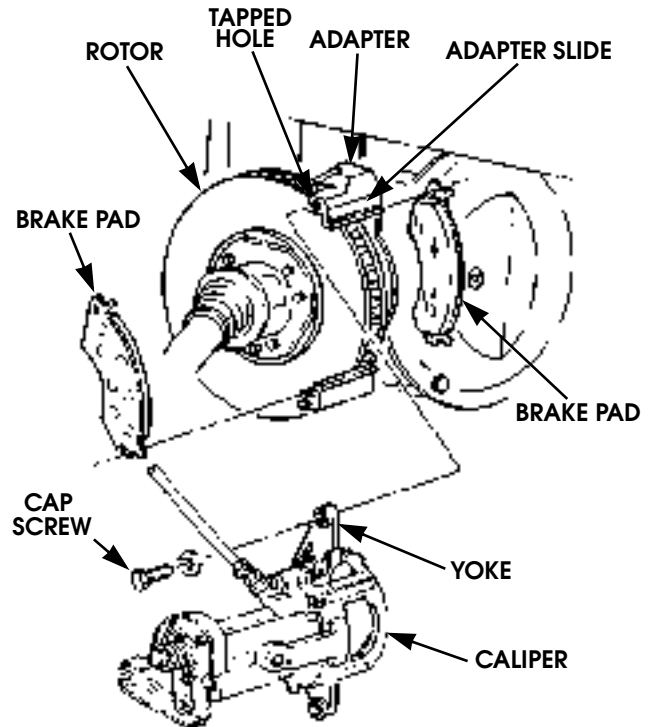

Figure 7-19: Rear Dual Brake Pad and Rotor
4. Remove two capscrews and washers securing yoke and caliper to adapter, and pull yoke and caliper away from rotor (Figure 7-19).
1. Clean mating surfaces of caliper and adapter and lightly lubricate adapter slides with brake component lubricant (Figure 7-19).
5. Thoroughly clean and inspect rotor for heat checks, discoloration, pitting, or scoring (Figure 7-19).
5. Position caliper and yoke on adapter and rotor. Secure yoke to adapter with two washers and capscrews. Using a crowsfoot, tighten capscrews to 40 lb-ft (54 N•m) (Figure 7-19).